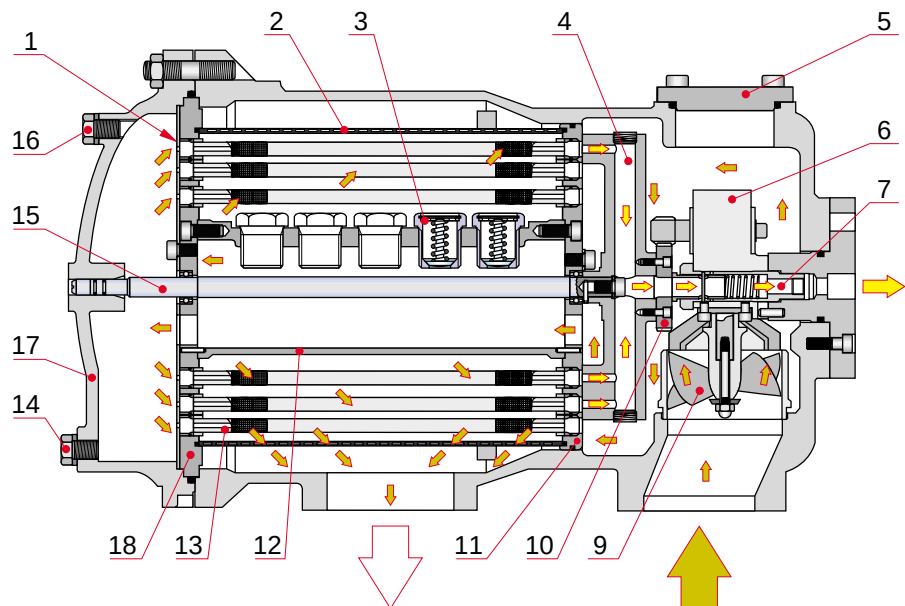

Fig 18-6
The arrows in Fig 18-6 show the flow through the filter. At first, the oil flows through the inlet flange and turbine (9) to the right end of the filter candles (13); a partial stream of about 50 % is passed through the central connection tube (12) to the left end of the filter candles. This means that the oil flows through the filter candles at both ends from inside outwards and most of the dirt particles are retained in the inside of the candles. The oil filtered in this way now passes through the protective filter (2) to the filter outlet.
**3 Check the ease of movement** of the worm gear unit (6), the turbine (9) including gear (10) with flushing arm (4) see Fig 18-6.
**1 Drain the filter,** open the plug (16) then open the plug (14), thereafter discharge oil. **Do not refill the system with drained oil because it is very dirty.**
**2 Remove the cover (17)** by opening the nuts, see Fig 18-6.
**3 Pull the entire filter element** including flushing arm (4) and gear (10) out of the housing with a suitable tool.
**Make sure that the exposed gear (10) is not damaged.**
**4 Remove the cover plate (1).**
**5 Remove the end plate (18)** by opening the screws.
**6 The filter candles (13)** and protective filter (2) can now be removed.